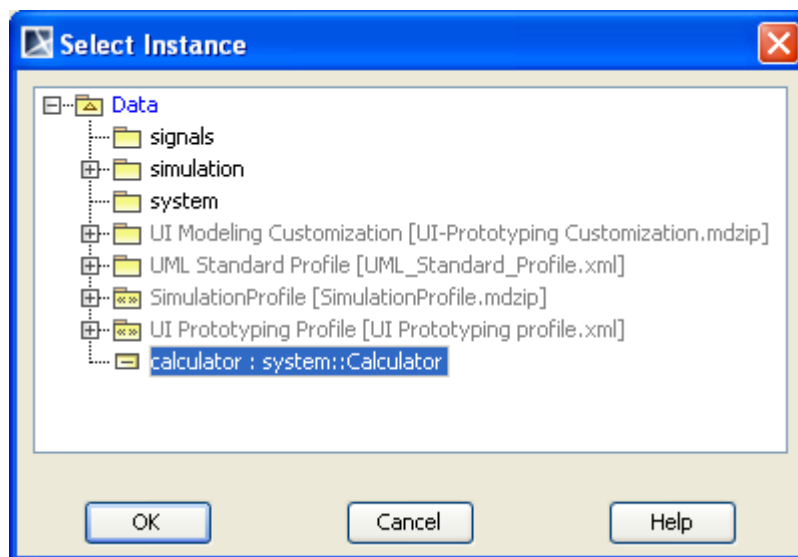

Figure 32 -- Selecting an InstanceSpecification in the Select Instance Dialog
2. The **Select Instance** dialog will open. Select an InstanceSpecification that will be used to save the runtime object (you can select only the InstanceSpecification that has the same classifier as the runtime object) and click **OK** (Figure 32).